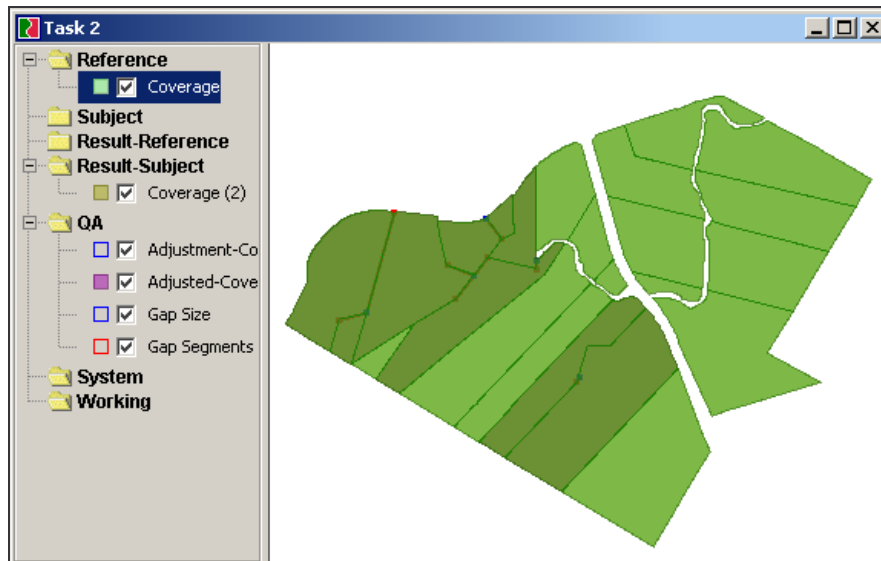

Figure 8 - Layers created by the Remove Coverage Gaps function
- When the Remove Coverage Gap function executes it will create a new, modified version of the input data layer as well as some layers containing features which allow you to QA the results of the process if desired (see Figure 8 above). The layers are created under two different categories. In the following table, **dataset** is the name of the input layer.